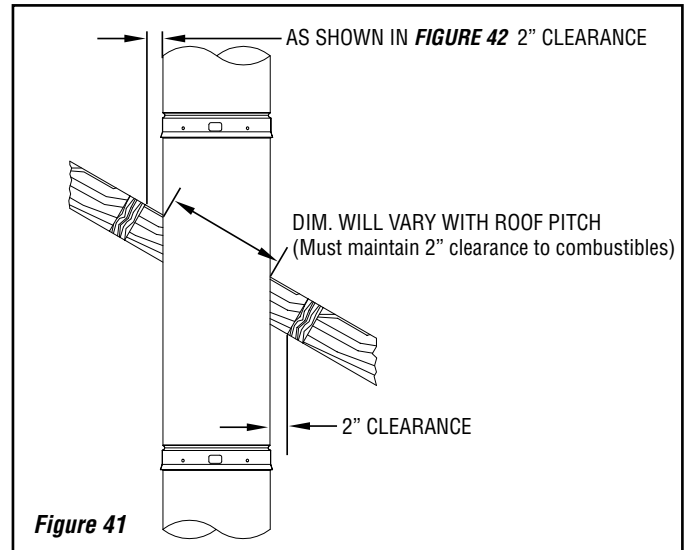

Figure 41
2. Install the next SP chimney section through the roof. See **Figure 41**.